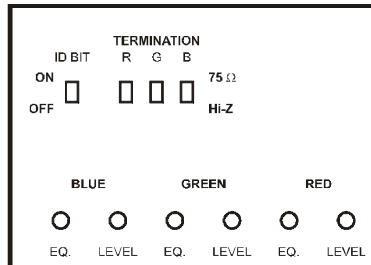

Figure 2: VP-108 Underside
Figure 2 and Table 2 define the underside controls:
5. Set the switches on the underside for looping³ (see Figure 2).